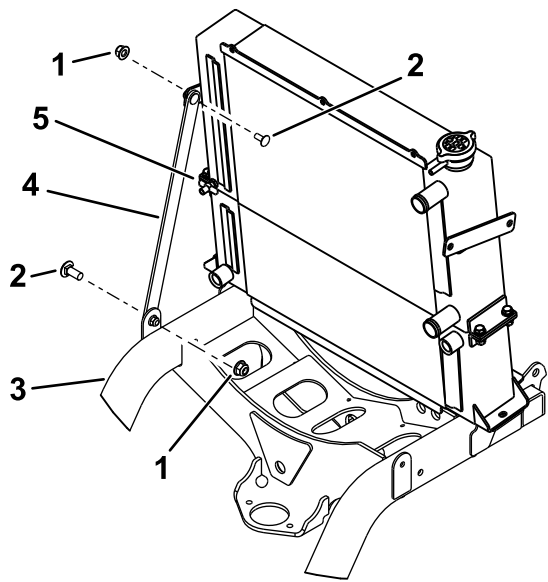

Figure 21
9. Remove the existing bracket from the machine frame and radiator (Figure 21). Save the hardware.
| 10. Drain half of the engine coolant from the radiator by using the valve on the right side of the radiator as shown in Figure 21 . | 1. Direction of fluid flow | 5. Nut (1/4 inch) |